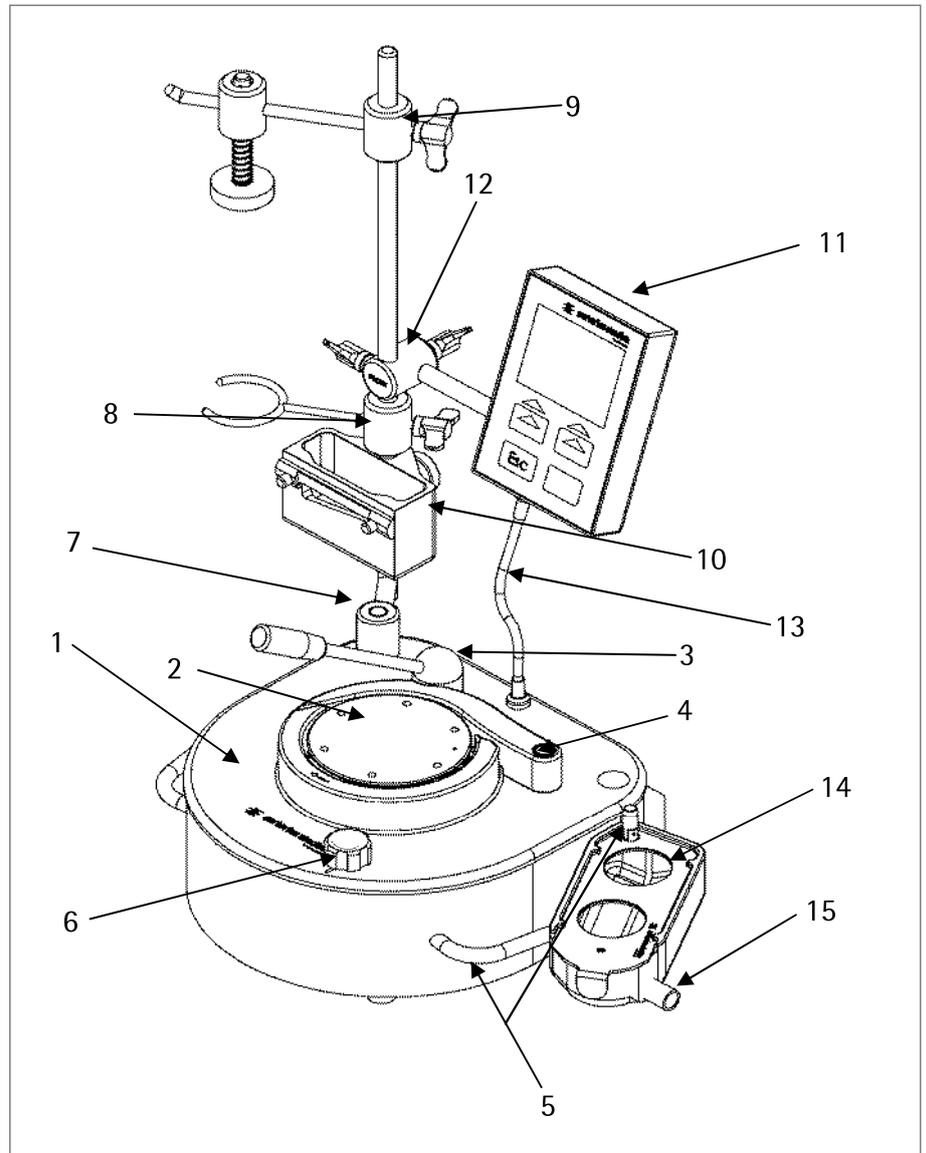

Fig. 1
The Sterisart® Universal pump (Model 16420, see Fig. 1) consists of pump housing (1) with pump head (2), lever (3), bow (4) and handles (5). On the right handle, there is also a bolt with a tilting lock for the draining container (14). The selecting knob (6) is located on the front right. The stand (7), including holding ring for bottles (8), fastening arm (9) and optional ampoule breaker (10), is located on the left side of the pump. Additionally, the control unit (11) is also fastened to the stand via the control unit clamp (12) and connected to the pump via the connecting cable plug (13) (see Fig. 1).
The draining container (Fig. 1; 14) for the sterility test containers is fastened to the right of the pump. Here, a draining tube can be connected to the designated flange connection (Fig. 1; 15).
At the back left, push the stand (Fig. 1, 7) onto the pins of the upper part of the pump until it is firmly in place. The holes in the foot of the stand can be used to change the position of the stand.
- First, fasten the holding ring for bottles to the stand (Fig. 1, 8), next fasten the control unit clamp (Fig. 1, 12) with the display and control unit (Fig. 1, 11; only for version 16420) and the fastening arm (Fig. 1, 9). Then make the electrical connection to the pump via the control unit's cable and plug contact (Fig. 1, 13). If necessary, attach the ampoule breaker (Fig. 1, 10) beforehand.
- Insert the bow (Fig. 1, 4) and the clamping lever (Fig. 1, 3) on the corresponding bolts on the top of the pump. The lever is jacketed in a plastic sleeve that can be removed for cleaning. If signs of wear appear on this sleeve after it has been in use for some time, it can be re-ordered as a spare part (see Chapter 14).
- After attaching the drain tubing to the flange connection (Fig. 1, 15) on the draining container (Fig. 1, 14), attach the draining container to the appropriate bolt with tilting lock on the right handle (Fig. 1, 5). The draining container and the cover plate are attached by moving the tilting lock.